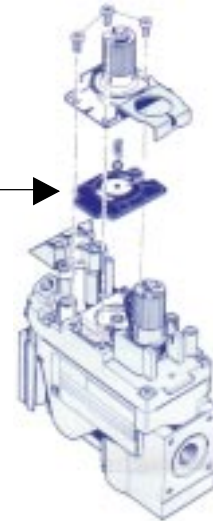

Figure 4.
- Change the variable regulator on the valve (Hi/Lo knob). Using a Torx t-20 screwdriver, remove the three specialty screws from the front of the valve regulator. See Figure 4.
- Remove the regulator tower and the gasket. **BE SURE TO REMOVE THE BLACK RUBBER GASKETS FROM THE VALVE!!!** See Figure 4.